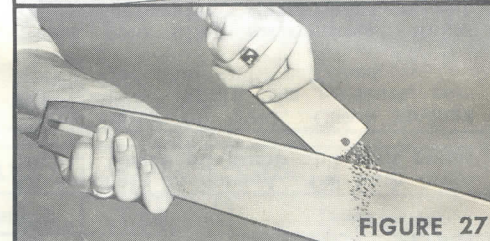

FIGURE 27
3. By using either of the sharp corners of this tool the bar groove can be cleaned regularly. The removal of the accumulated sawdust, old oil and chain filings will overcome the common fault of a chain riding up in the groove resulting in both chain weave and breakage. (Figure 27).